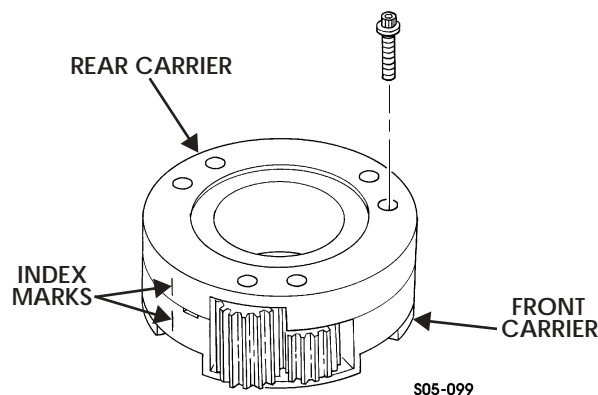

Figure 5-156: Differential
14. Align index marks on front and rear carriers and set rear carrier over spacer pins (Figure 5-156).